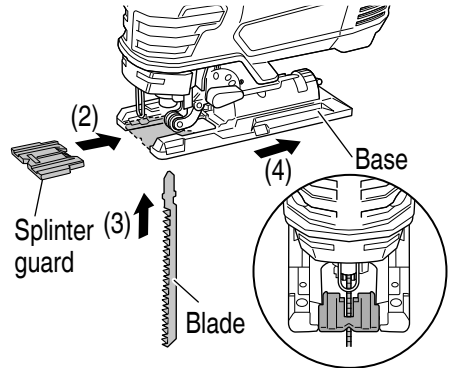

Fig. 8
- (2) Insert the splinter guard in the space on the base, and push it completely. (See **Fig. 8**)
- (3) Attach the blade.
- (4) Push the base all the way to the back position, and tighten the base bolts located at the bottom of the base to secure the base.